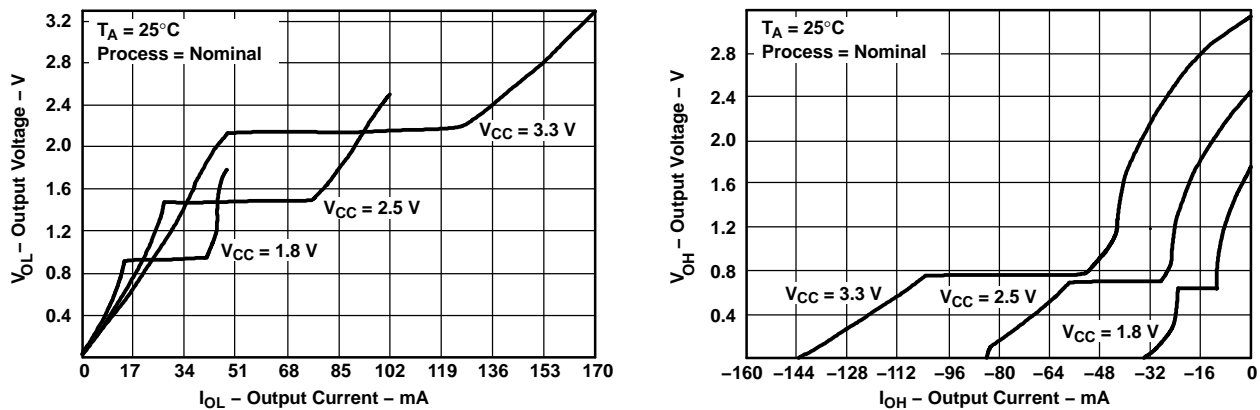

Figure 1. Output Voltage vs Output Current
A Dynamic Output Control (DOC) circuit is implemented, which, during the transition, initially lowers the output impedance to effectively drive the load and, subsequently, raises the impedance to reduce noise. Figure 1 shows typical V_{OL} vs I_{OL} and V_{OH} vs I_{OH} curves to illustrate the output impedance and drive capability of the circuit. At the beginning of the signal transition, the DOC circuit provides a maximum dynamic drive that is equivalent to a high-drive standard-output device. For more information, refer to the TI application reports, *AVC Logic Family Technology and Applications*, literature number SCEA006, and *Dynamic Output Control (DOC) Circuitry Technology and Applications*, literature number SCEA009.
- (1) All unused inputs of the device must be held at V_{CC} or GND to ensure proper device operation. Refer to the TI application report, *Implications of Slow or Floating CMOS Inputs*, literature number SCBA004.
- (2) Dynamic drive capability is equivalent to standard outputs with I_{OH} and I_{OL} of ±24 mA at 2.5-V V_{CC}. See Figure 1 for V_{OL} vs I_{OL} and V_{OH} vs I_{OH} characteristics. Refer to the TI application reports, *AVC Logic Family Technology and Applications*, literature number SCEA006, and *Dynamic Output Control (DOC™) Circuitry Technology and Applications*, literature number SCEA009.